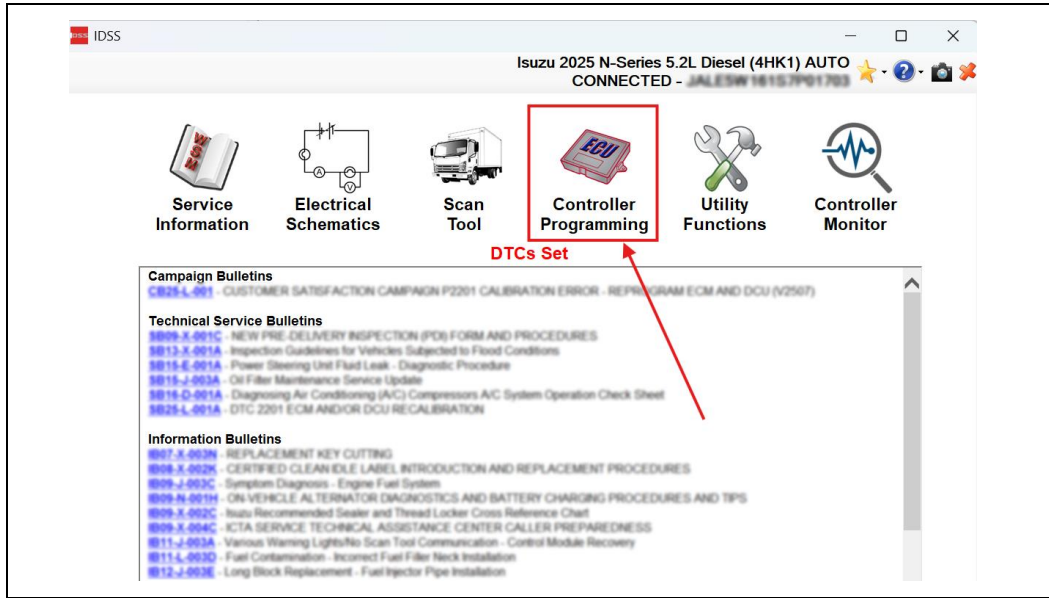

Figure 2.
5. Select **“Controller Programming.”** (See Figure 2.)